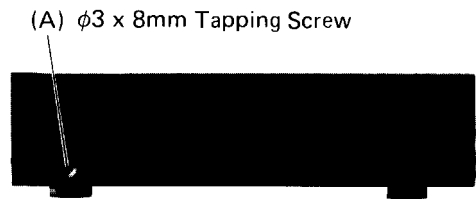

Figure 7
1. Remove two screws (A) & (B) on both sides and four screws (C) on back side, and the top cover will be removed. (See Figure 7, 8 and 9).